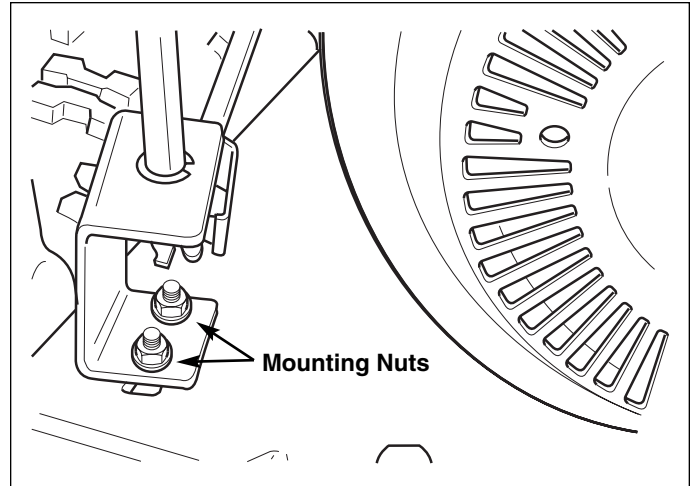

Figure 23. Chute Direction Gear Adjustments
1. Loosen the gear bracket mounting nuts (Figure 23).